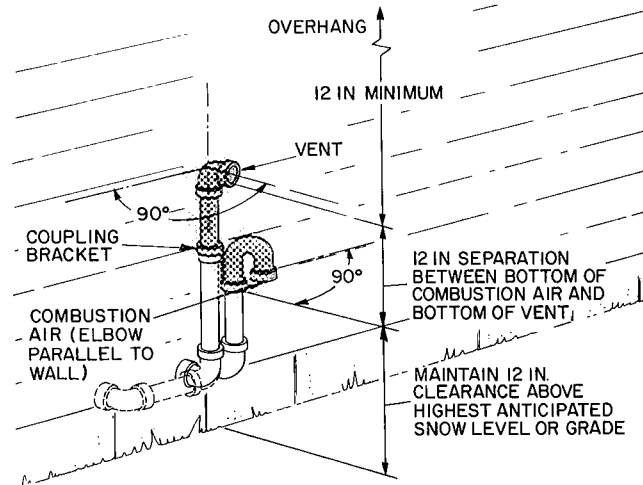

Fig. 4 — Sidewall Vent Terminal Installation (less than 12 in. above snow level or grade)
Install kit as follows when combustion-air and vent pipes exit through sidewall less than 12 in. above highest anticipated snow level or grade (Fig. 4):
NOTE: The solid-line arrangement in Fig. 4 is preferred. The dashed-line arrangement shown is an option for the vent pipe only.
4. Loosely install U-fitting and bracket as shown in Fig. 4.
5. Loosely install vent-pipe assembly in coupling as shown in Fig. 4.
6. Check required dimensions as shown in Fig. 4.
8. Install bracket as shown in Fig. 4.